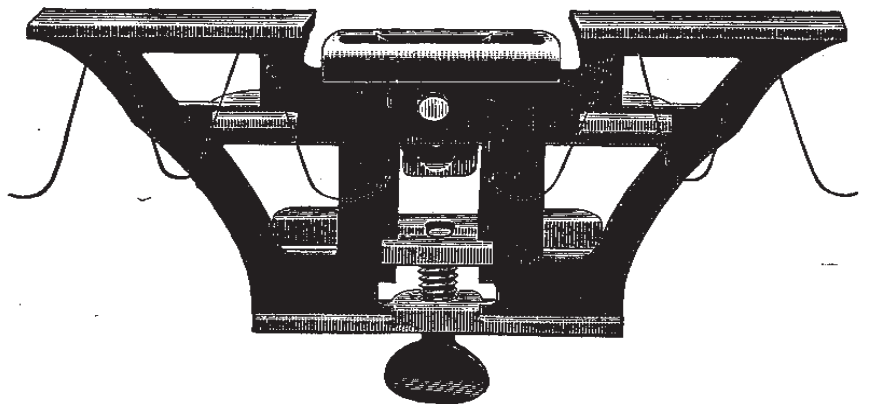

FIG. 2—RAKER TOOTH GAUGE.
**Second:**—Place the gauge over the raker teeth as shown in Fig. 2, and file them down to the required length. Care should be taken to have the rakers shorter than the cutting teeth. If the rakers are too long they will not allow the cutting teeth to come in